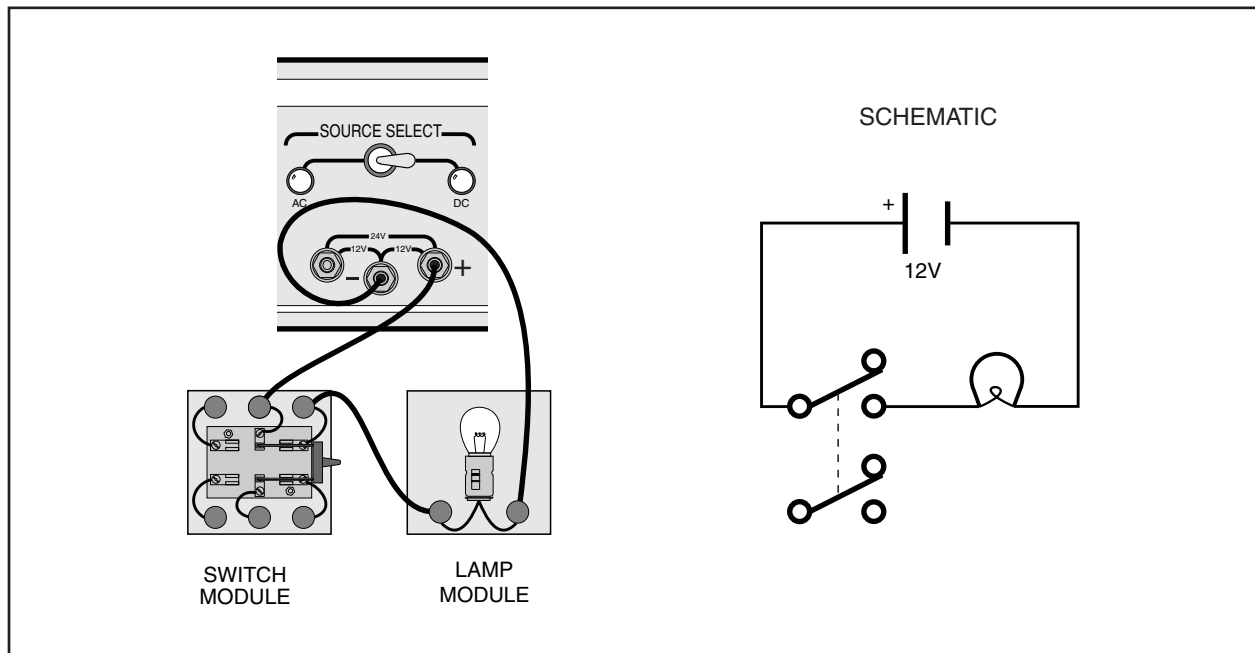

Figure 3-1. A Circuit with a Knife Switch and a Lamp
- ❑ 3. Connect the circuit shown in figure 3-1.
Notice in figure 3-1 the schematic symbol of a lamp.